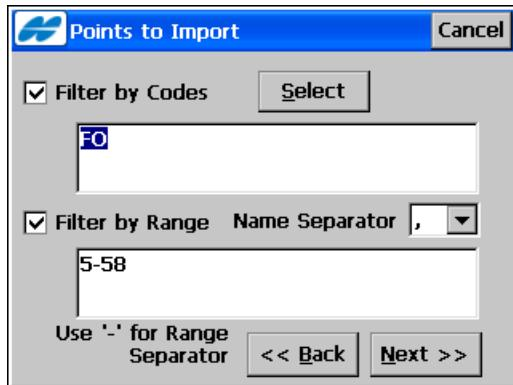

Figure 5-5. Points to Import
- **Points To Import** if the points are filtered *By Range and Code* (see Figure 5-5 on page 5-6)
The **Points to Import** screen filters imported points (Figure 5-5 on page 5-6).